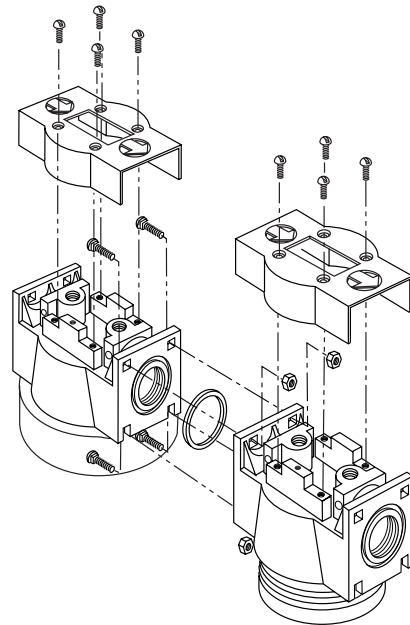

Figure 1.4
- b. Threaded heads (see Figure 1.4)